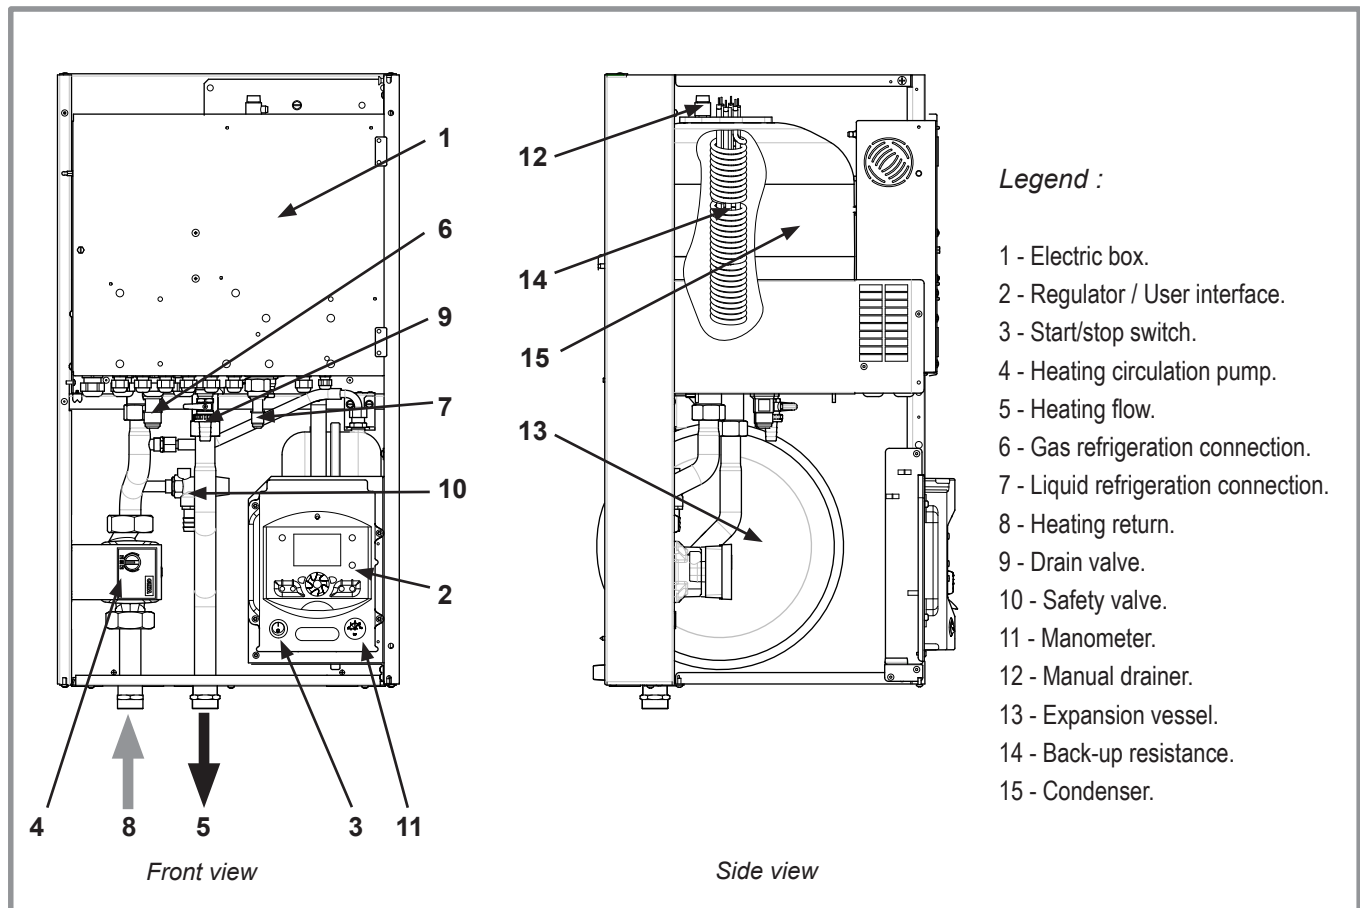

figure 8 - Hydraulic unit components
- In the condenser (ref. **14**, figure 8, page 10) :